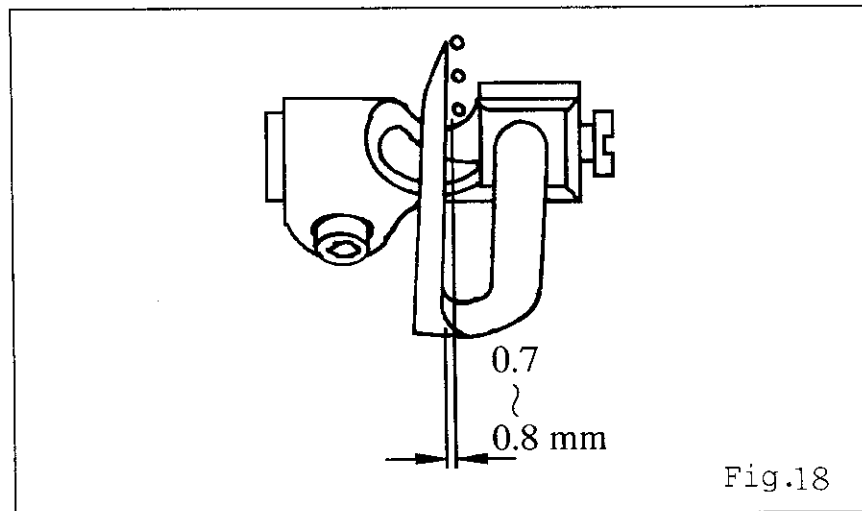

Fig.18
1. Fix the Looper on the Looper Holer, make sure Looper deflect to the right about  $0.7\text{mm} \sim 0.8\text{mm}$ . (Fig18)